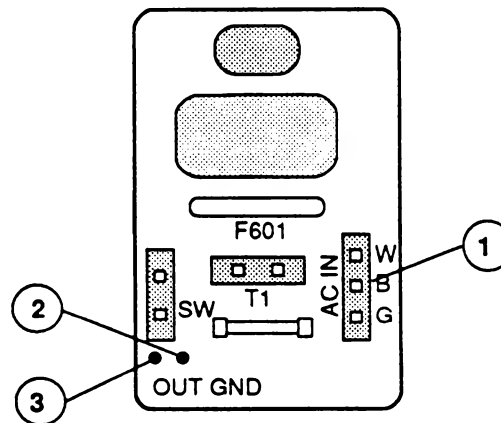

**FIGURE 6**
Locate the AC IN connector pins on the line filter board (Figure 6, #1).
- b) On the component side of the new filter board, locate the two solder points above the marking "OUT GND" (Figure 6, #2 and #3). Desolder to remove any solder present at either solder point.
- c) Solder the green AC IN ground wire to the solder point (Figure 6, #3) above the marking "OUT GND" on the filter board.
2. Locate the green ground wire that you desoldered from the customer's filter board, and solder the wire to the new filter board at the solder point (Figure 6, #2) above the marking "OUT GND."